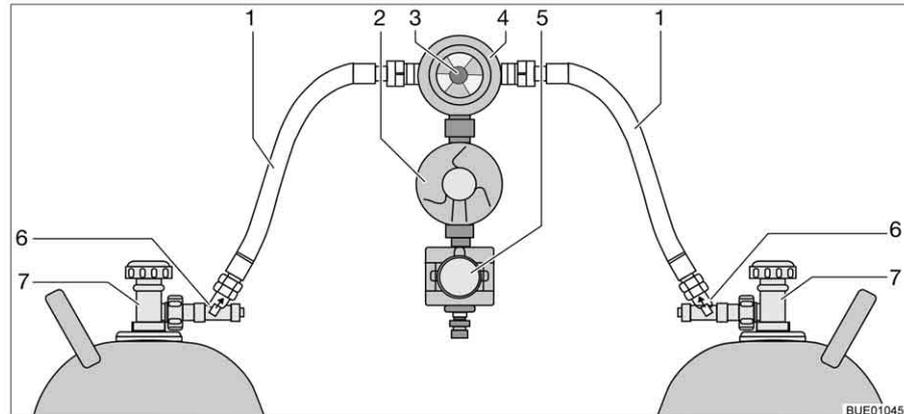

Fig. 92 Crash protection unit switching facility
The crash protection unit consists of two flow restrictors with manual release button (Fig. 92,6) a reversing valve (Fig. 92,4) with pressure regulator (Fig. 92,2), an electrovalve (Fig. 92,5) and the operating unit with tricoloured LED. The reversing valve is installed between the two gas tubes (Fig. 92,1).
Use the knob (Fig. 92,3) on the reversing valve to select which of the gas bottles is to be used as a primary bottle and which is to be used as a reserve bottle.
Only the electrical functions can be switched at the operating unit (Fig. 93). The regulator taps on the gas bottles (Fig. 92,7) and the release buttons (Fig. 92,6) must be opened manually.
- Open the regulator taps of the gas bottles (Fig. 92,7).
- Press the release buttons (Fig. 92,6) successively for 10 seconds.
- Use the knob (Fig. 92,3) on the reversing valve (Fig. 92,4) to select the gas bottle which is to be the primary source of gas (primary bottle). Always turn the knob as far as it will go.
- Close the regulator taps of the gas bottles (Fig. 92,7).